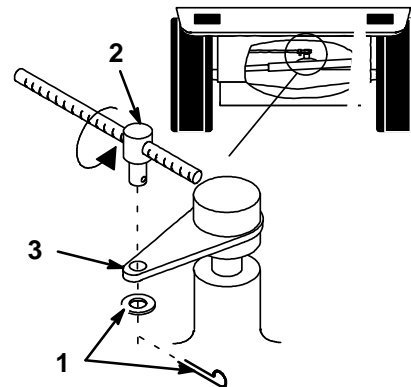

Figure 26
The brake lever is on top of the transaxle (Fig. 26). If the parking brake does not hold securely, an adjustment is required.
3. To adjust the brake remove the cotter pin and washer from the brake lever (Fig. 26).
4. Rotate the trunnion so it smoothly slides into brake lever (Fig. 26).
5. Secure trunnion to brake lever with washer and cotter pin (Fig. 26).